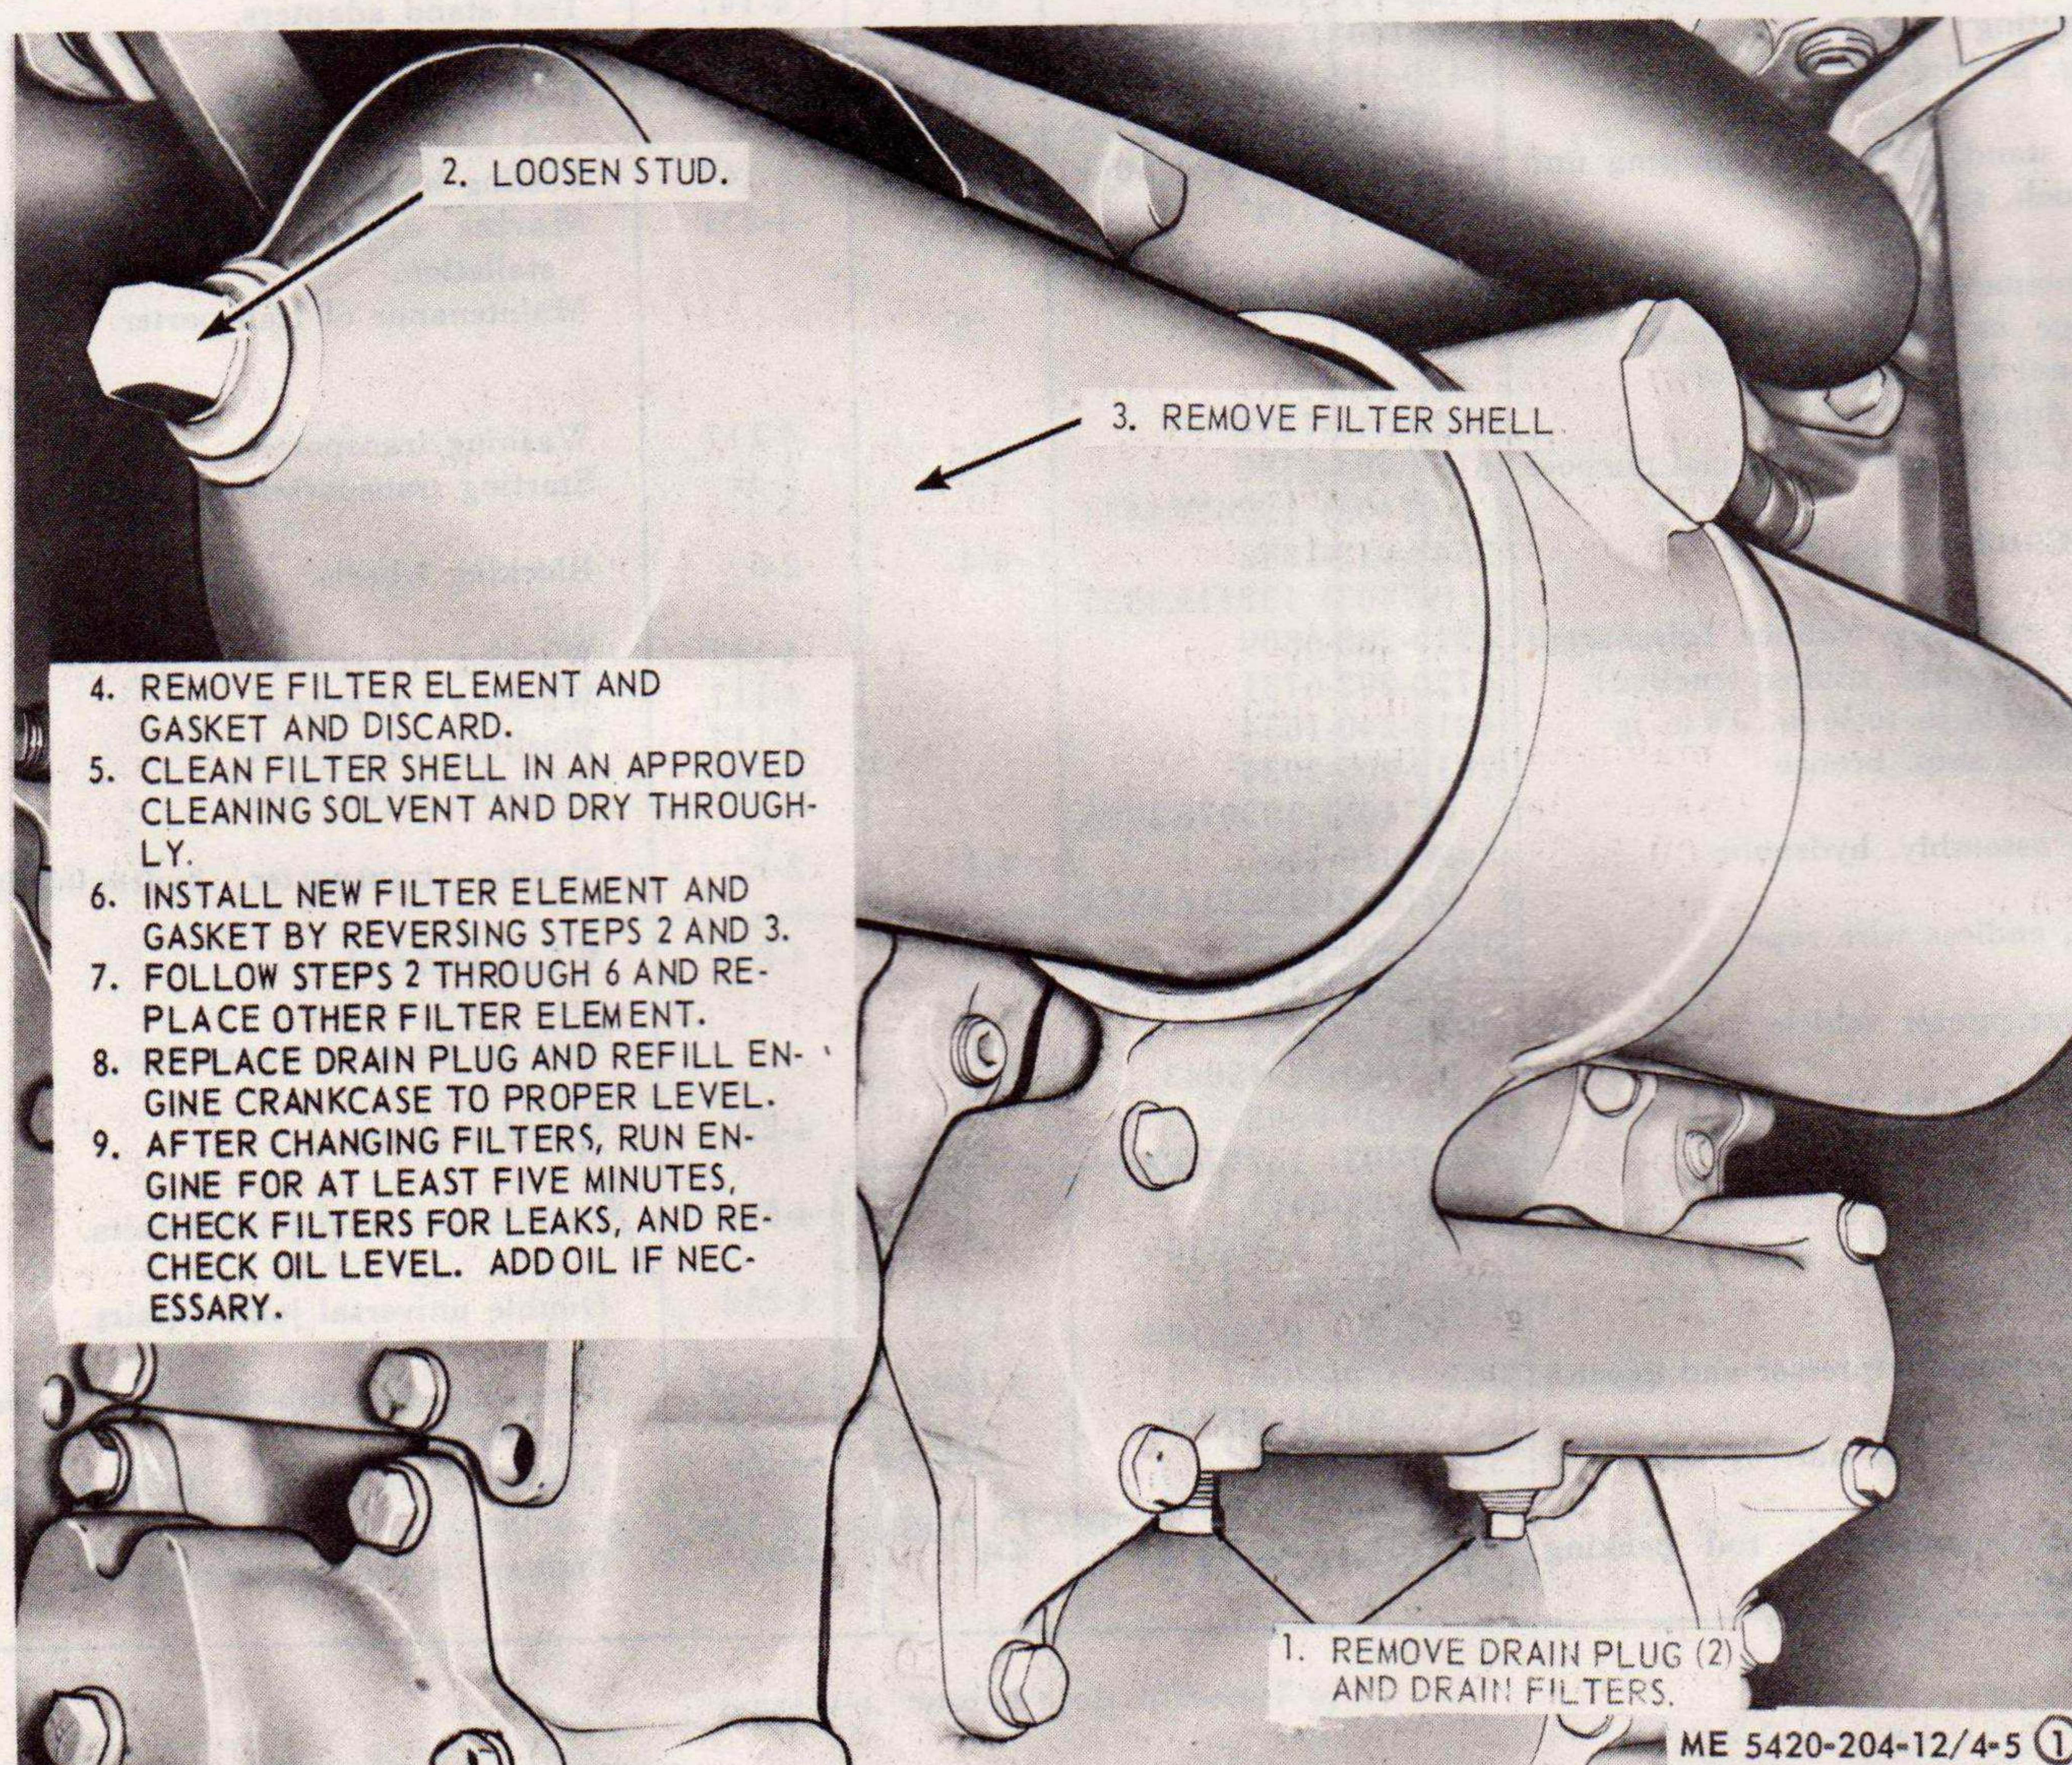

Figure 4-5. Engine oil filter service. (Sheet 1 of 2)
(1) The crankcase oil level must be checked frequently, as oil consumption may increase.
(2) The oil may require changing more frequently than usual because contamination by dilution and sludge formation will increase under cold weather operating conditions.
*f. Engine Oil Filter Service.* Refer to figure 4-5 and service the engine oil filters.